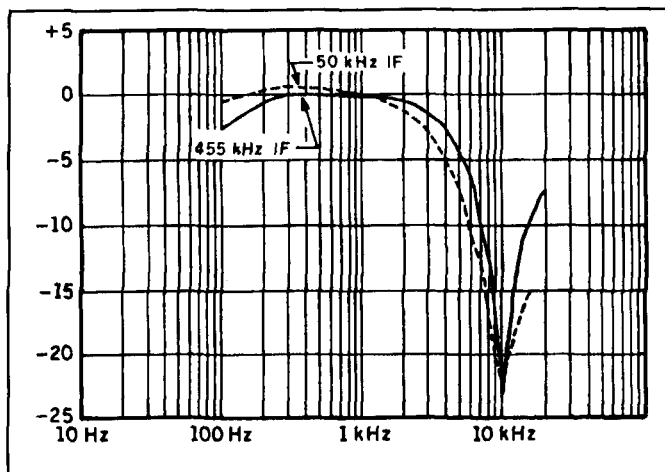

Figure 8. Frequency response.
- The audio frequency response of this circuit has been tailored for communications use (200 Hz to 4 kHz). The detector will not provide a wideband audio output unless the notch filter is bypassed. Even then, the frequency response will be limited by the "Q" of the tuned circuit on pin 2 and the response of the IF stages preceding the detector (see **Figure 8**).